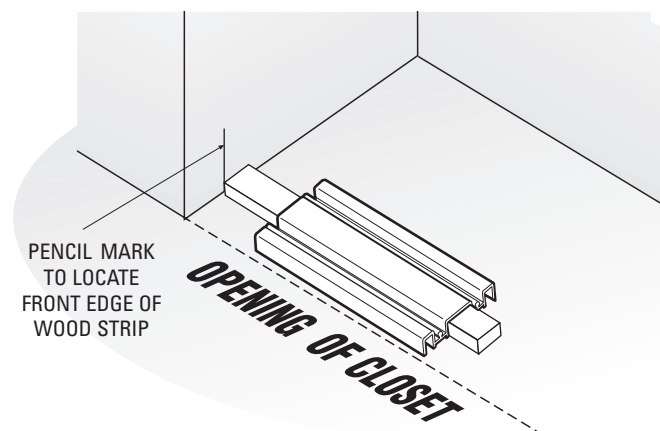

Figure 3
- D. Place front of Wood Strip (#4) up to pencil mark on wall (See Figure 3). Do this on both sides. Now attach Wood Strip (#4) according to your **Offset Measuring Table**.
- E. Cut the Bottom Track (#3) to your measurement of the inside closet opening. Slide the Bottom Track (#3) over Wood Strip (#4) and attach with four (4) #8 x 1/2" Truss Screws (#7).